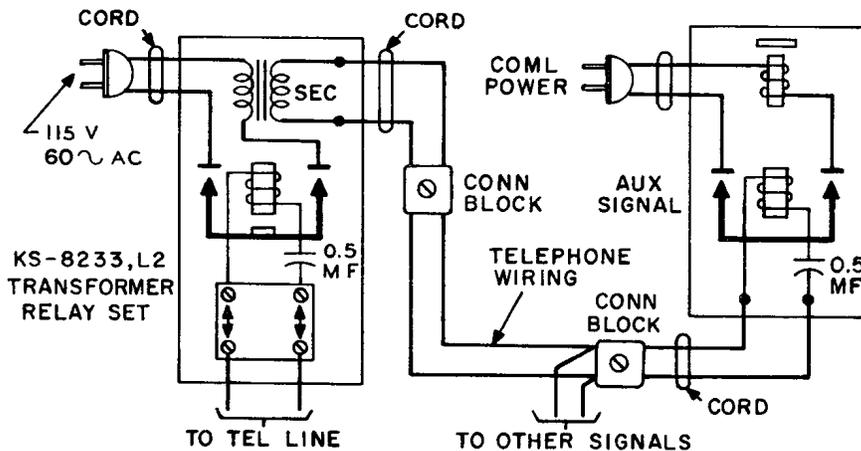

Fig. 4 - KS-8233, List 2 Transformer Relay Set Connections
2.04 The KS-8233, List 2 transformer relay set has been used to connect several signals to one telephone line, as shown in Fig. 4, and may be encountered in some existing installations.